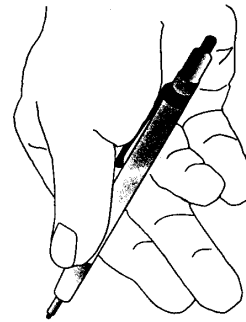

FIGURE 2.18 ■ Step 2, holding the pencil in the hand compass.
- Step 2. To use your hand and a pencil as a compass, place the pencil in your hand between your thumb and the upper part of your index finger so your index finger becomes the *compass point* and the pencil becomes the *compass lead*. The other end of the pencil rests in your palm as shown in Figure 2.18.